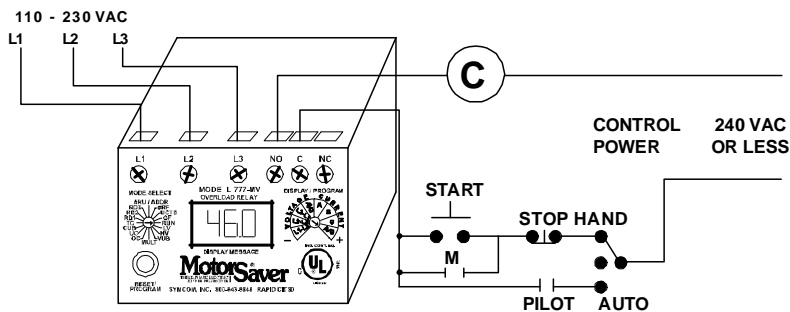

Figure 3. Typical Wiring Diagram
- Connect the output relay to the circuitry to be controlled (see Figure 3). To control a motor, connect the normally open contact in series with the magnetic coil of the motor starter as shown. To sound an alarm, connect the normally closed contact in series with the alarm (not shown).